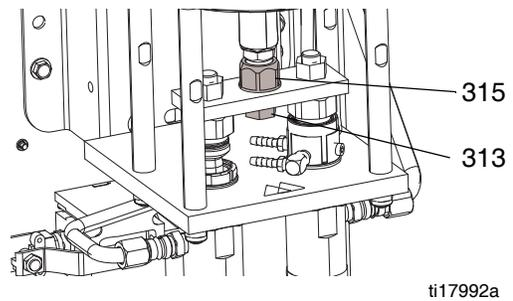

FIG. 1
- Use a wrench to hold the piston rod in place and remove the adapter (315) with another wrench. See FIG. 1, page 26.
- Apply medium blue thread lock on adapter (315). Use a wrench to hold the piston rod in place and install the adapter (315) with another wrench. Torque to 32-38 ft-lbs (43-51 N•m). See FIG. 1.